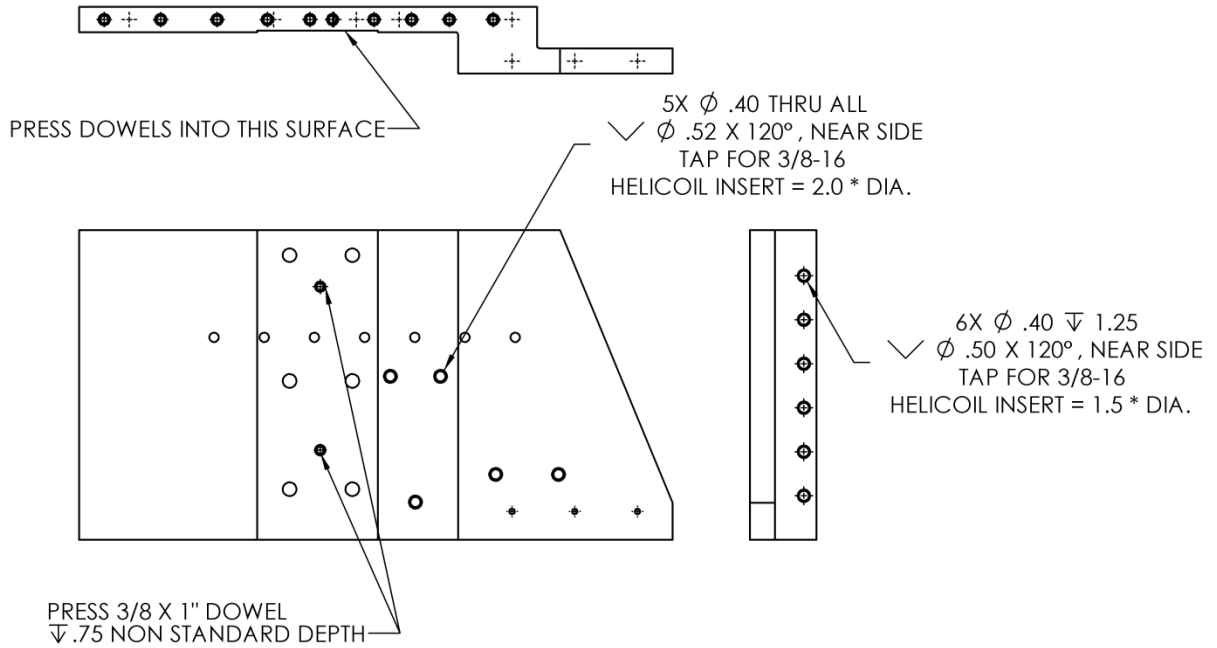

Figure 26
1. Apply Helicoils and dowel pins as shown Figure 26. Note press depth of dowel.